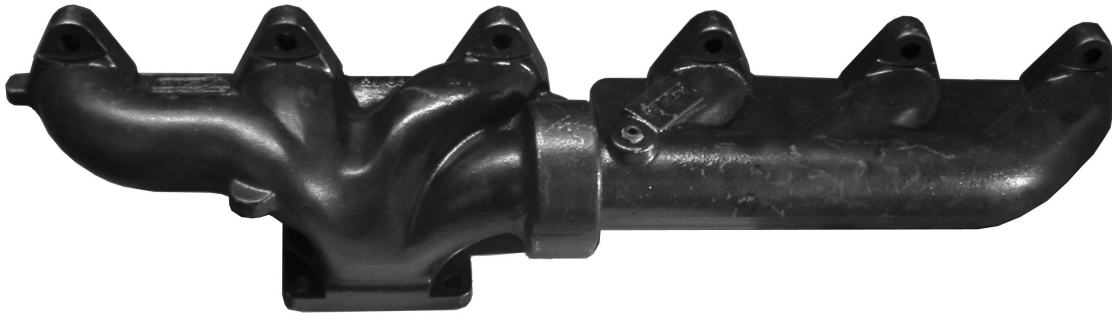

Figure 1 - Dodge 2-Piece Exhaust Manifold
- Torque bolts to **32 ft-lbs** in a clockwise pattern from the center out (as shown in Figure 1). Re-torque the four center bolts to **32 ft-lbs**.